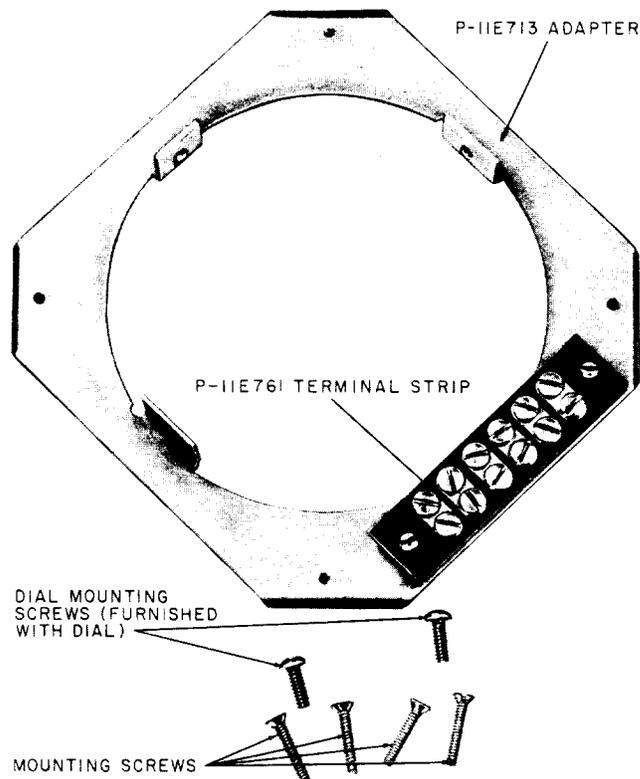

Fig. 4—48A Dial Mounting
2.13 The 48A dial mounting (Fig. 4) consists of a formed metal adapter and a terminal strip which is arranged to mount a 9H dial flush on a 1/4-inch thick panel. The terminal strip is equipped with six screw-type terminals to permit connection of dial leads and associated circuit wiring. Two screws furnished with the dial secures the dial to the mounting. Four mounting screws are also provided for securing dial mounting to panel.